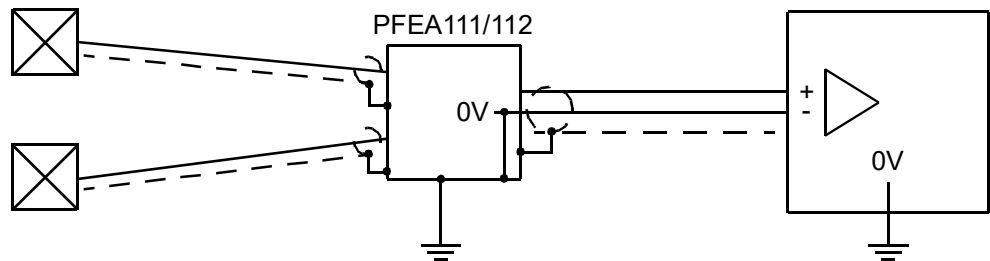
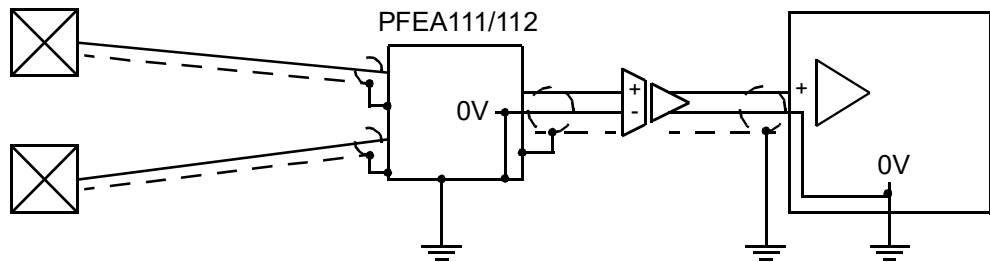

Figure 2-7. Connection to a superior system with an insulated or differential input
Figure 2-8. Connection to a superior system through a separate insulation amplifier
- Since the signal earth of the measurement system is connected to the chassis earth of the tension electronics, the input of a superior system connected to the control system must not be earthed. The best ways of interconnecting the measurement system and a superior system to achieve optimal function are shown in Figure 2-7 and Figure 2-8.